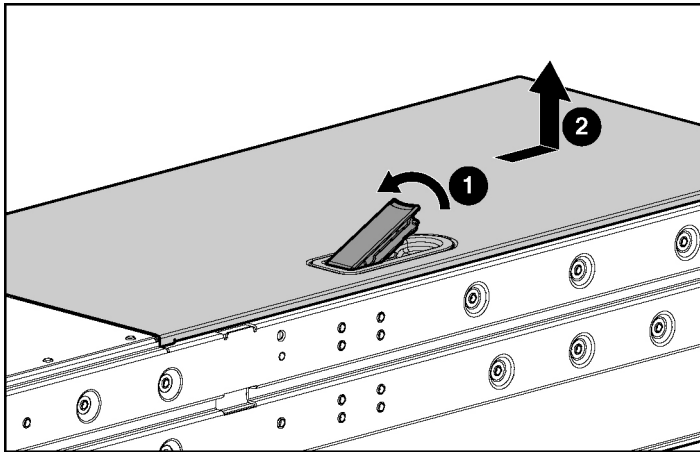

Figure 1-4: Removing the access panel
1. Remove the access panel. Refer to Figure 1-4.
- a. Disconnect the fan cable from the PCI-X mezzanine board (1).
- b. Pull out the fan clips located underneath the assembly (2).
- c. Lift the assembly out of the chassis (3).